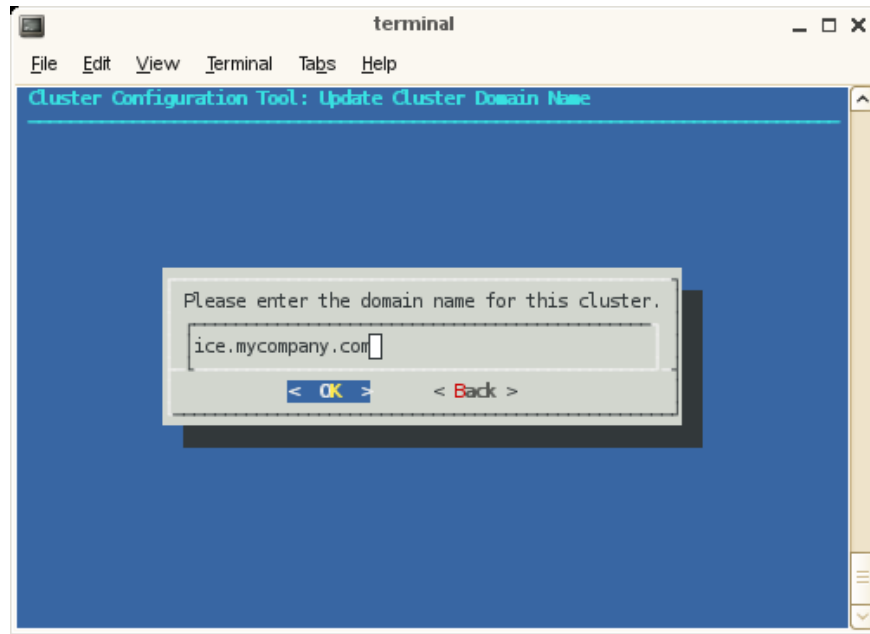

Figure 2-20 Update Cluster Domain Name Screen
12. Enter the domain name for your Altix ICE system, as shown in Figure 2-20 on page 59. Click **OK** to continue (this will be a subdomain to your house network, by default).